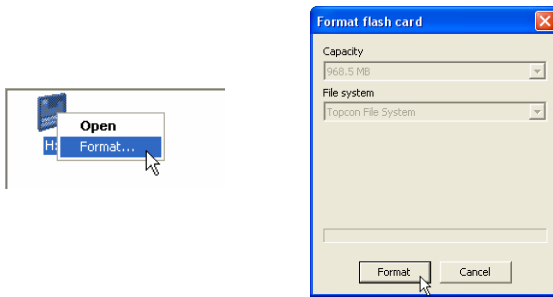

Figure 2-39. Format Memory Card
4. To format Topcon Memory Cards in the receiver's file system, right-click the disk in the left panel of Windows Explorer, select **Format** from the pop-up menu, and click **Ok** in the *Format flash card* window (Figure 2-39 on page 2-23).